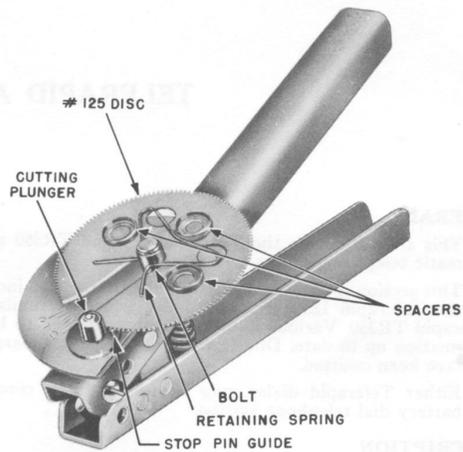

Fig. 4—Cutting Tool 125Z
3.05 The disc for Telerapid 125 has 125 teeth, for Telerapid TR350, 102 teeth; each tooth represents one pulse. The discs are stamped **125** (Telerapid 125) and **102** (Telerapid TR350). In cutting the discs, only the special cutting tools 125Z or TR351 (for Telerapid 125 or TR350, respectively), each of which is capable of cutting three teeth per operation, must be used. Slide the disc, with the side holding the retainer spring facing up, onto the bolt nearest the handle of the cutting tool in such a position that the slot in the disc is toward the cutting plunger. (See Fig. 4 or 5.) To begin cutting the disc, rotate the disc clockwise so that the stop-pin guide is inserted between the second and third teeth, and then with counterclockwise pressure exerted on the disc operate the cutting tool. This operation will cut only the corner of the first tooth and permits the rider of the dialer to slide more readily over the teeth. **The stop-pin guide always must be inserted between teeth of the disc and counterclockwise pressure exerted on the disc when operating the cutting tool.**